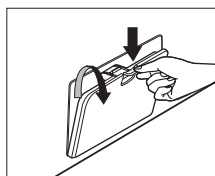

Fig.13
- Open the service flap. (bottom right corner) (Fig.13)